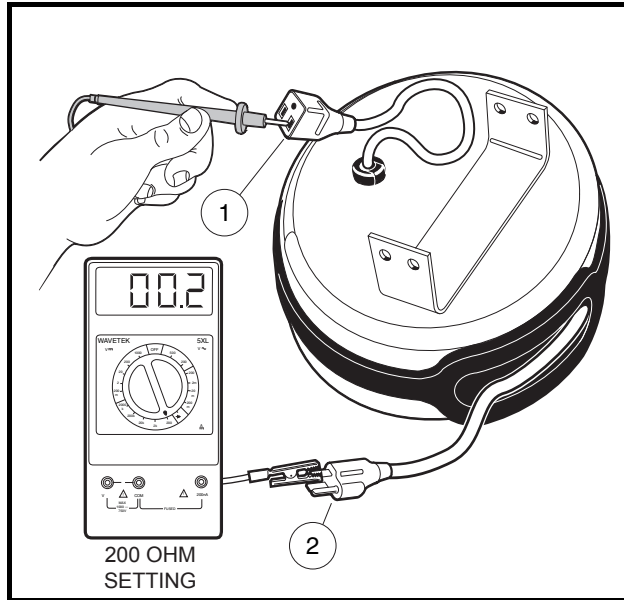

Figure 9-15 Retractable Cord Reel Test
5. Using a multimeter set for 200 ohms, place the red (+) probe in one of the flat blade openings of the cord reel receptacle (1) (**Figure 9-15, Page 9-20**). Test for continuity at the cord reel AC plug (2) on each of the flat blades and then on the round pin of the AC plug. The tester should indicate continuity on one flat blade only. If any other reading is obtained, the cord reel must be replaced.